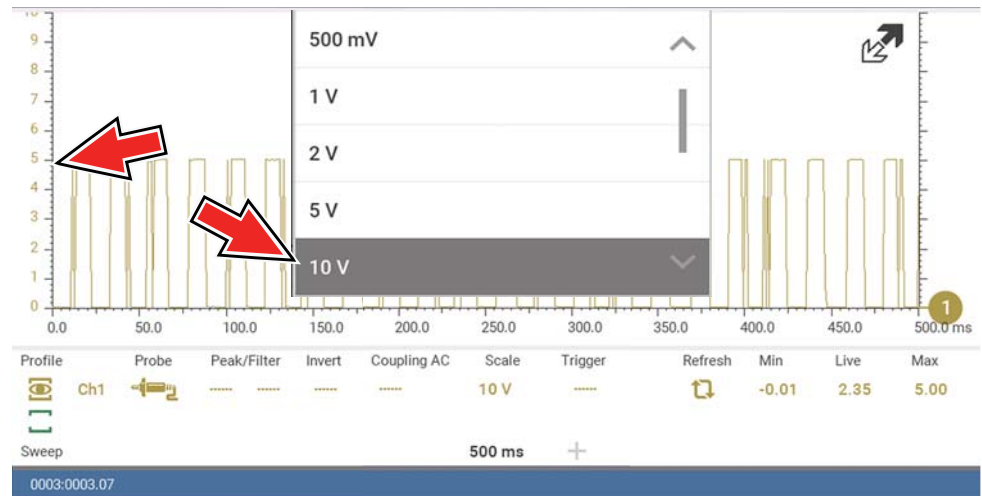

Figure 9-29
**Example (Figure 9-29):** Selecting 10V, changes the vertical scale to a 10V volt scale. The vertical scale is “always” divided by 10, therefore each division is incremented by 1V.